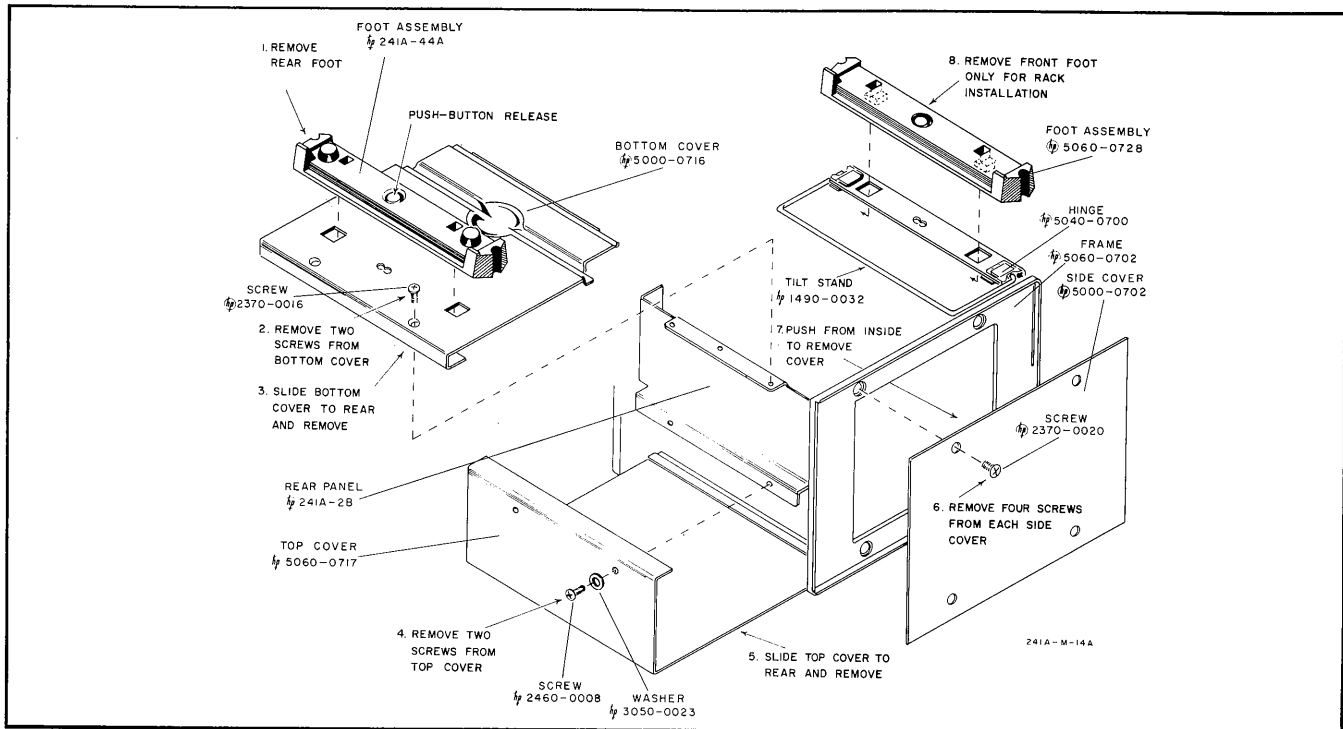

Figure 5-3. Cover Removal
5-14. For access to circuit components, remove the top and bottom covers. When repairing the frequency-selector switch assemblies (S101 through S103); or, when replacing multiplier switch S104, remove the side covers as well. To remove covers, refer to Figure 5-3, and proceed as follows:
- a. Remove screws from top and bottom covers as shown in Figure 5-3.
- a. Remove top cover from Model 241A cabinet. (Refer to Figure 5-3.)